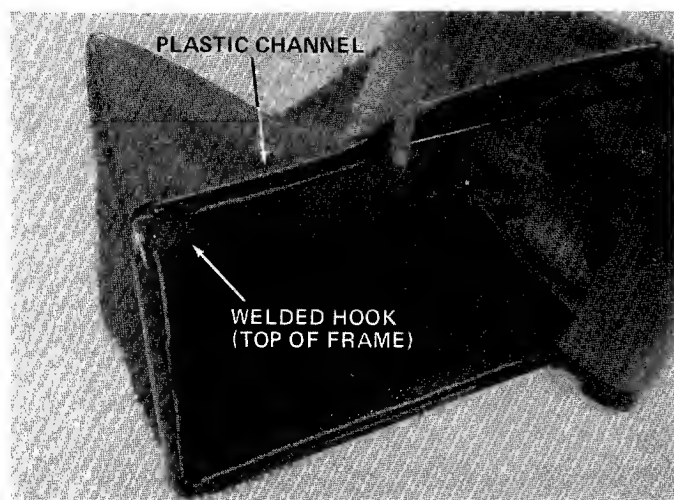

FIGURE 5
4. Place the grass catcher bag over frame assembly. The top and bottom of bag is determined by the length of the plastic channel on edge of bag. The shorter channel will be the top. The top of frame has welded hooks. Secure the bag to frame by opening the plastic channel up by hand and snap over the frame. See figure 5.